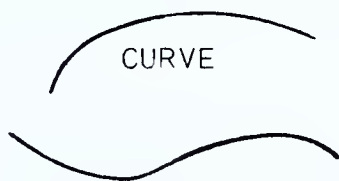

FIG. 239 — *Curves*
**CURVE** — Fig. 239. The path of a moving point, not necessarily a circle.